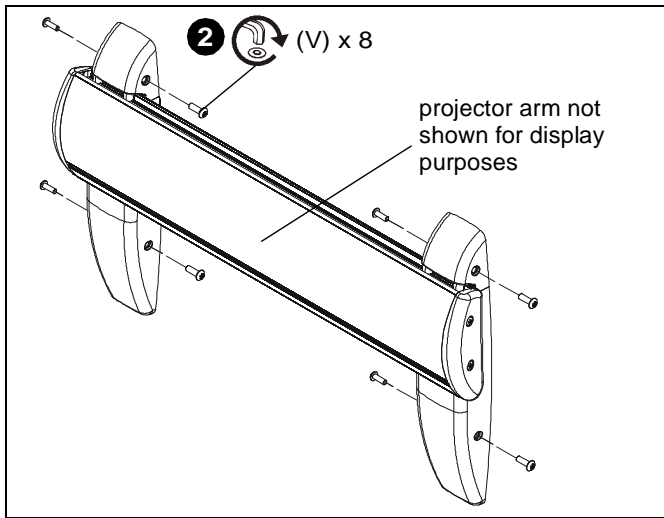

Figure 43
2. Install eight #8-32 x 1/2" button head security screws (V) into holes in wall bracket covers. (See Figure 43)